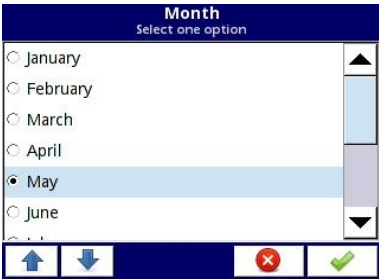

Fig. 7.9. Single choice type editor
- single choice type options, see Fig. 7.9,